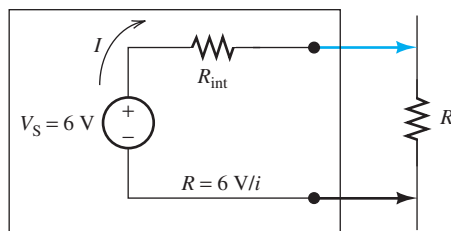

FIGURE P14.3 Ohmmeter circuit.
- 14.3** (H) An ohmmeter applies a known voltage to the thermistor and measures the current drawn, I . The resistance is then calculated internally from this voltage and current. To prevent a short circuit between the leads from causing an extremely high current, a small resistor, R_{int} , is placed in series with the leads, as indicated in Figure P14.3.